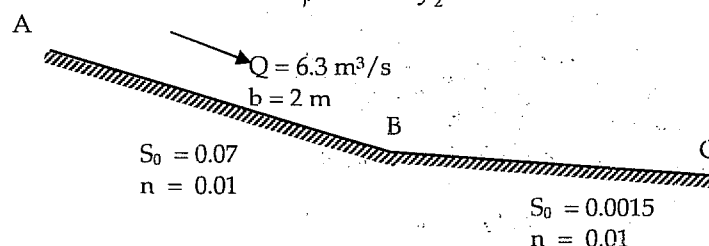

Figure 4
4) An open channel has a rectangular cross-section with a width of 2 m and carries a steady discharge of  $6.3 \text{ m}^3/\text{s}$ . This channel has two sections, AB and BC, as shown in Figure 4. The section AB has a slope of 0.07 and a Manning's coefficient of 0.01 while the section BC has a slope of 0.0015 and a Manning's coefficient of 0.01. The flow far upstream and far downstream of B is observed to be uniform.